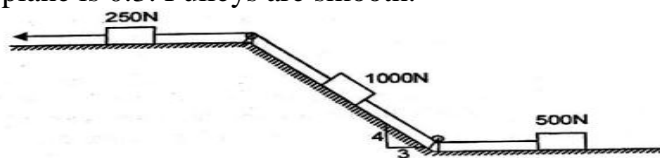

Figure.8
11. Determine the constant force P that will give the system of bodies shown in Figure 8. A velocity of 3 m/sec after moving 4.5 m from rest. Coefficient of friction between the blocks and the plane is 0.3 . Pulleys are smooth. [10]